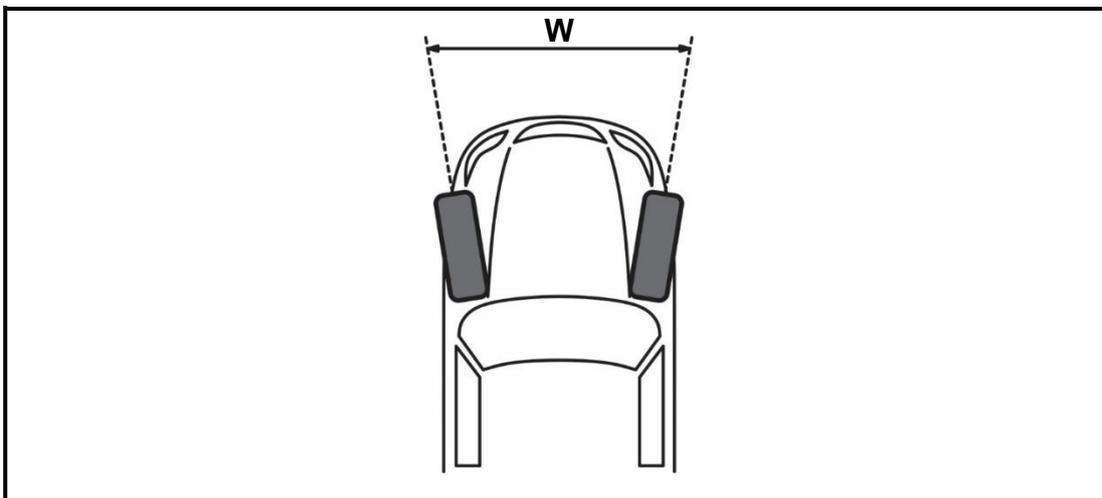

FIGURE 4.13
4.13 Identify wheel alignment angle **W** in FIGURE 4.13 below.